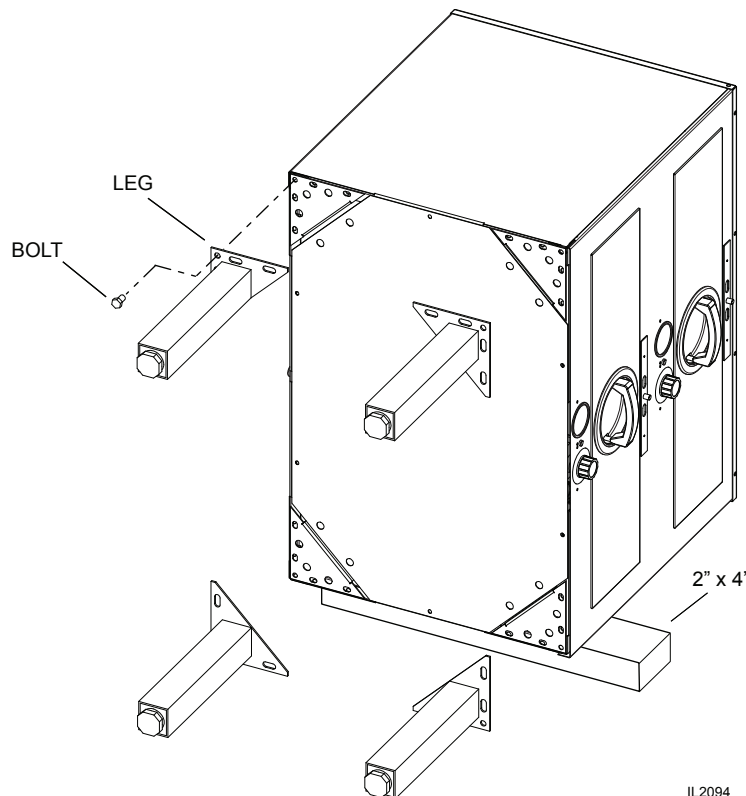

Fig. 2-1, Leg / Caster Installation
2. Remove all tape from unit and set food server on its side on three 2x4's (as shown in Figure 2-1) so the packing skid attached to the bottom of the unit is off the ground.